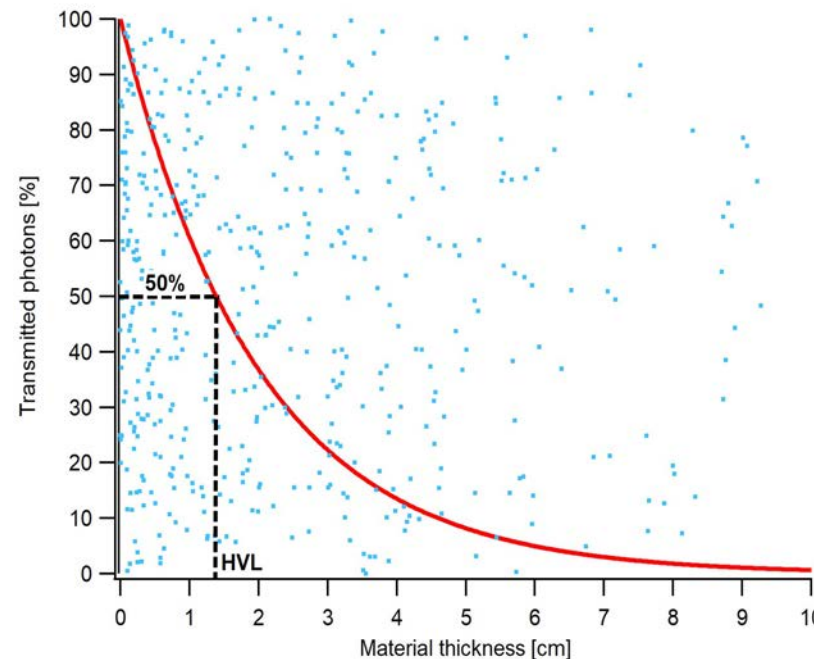

Fig. 12 – Half value layer
- The HVL of an X-ray beam is the thickness of absorbing material that is needed to reduce the beam intensity by half of its initial value (Fig. 12).